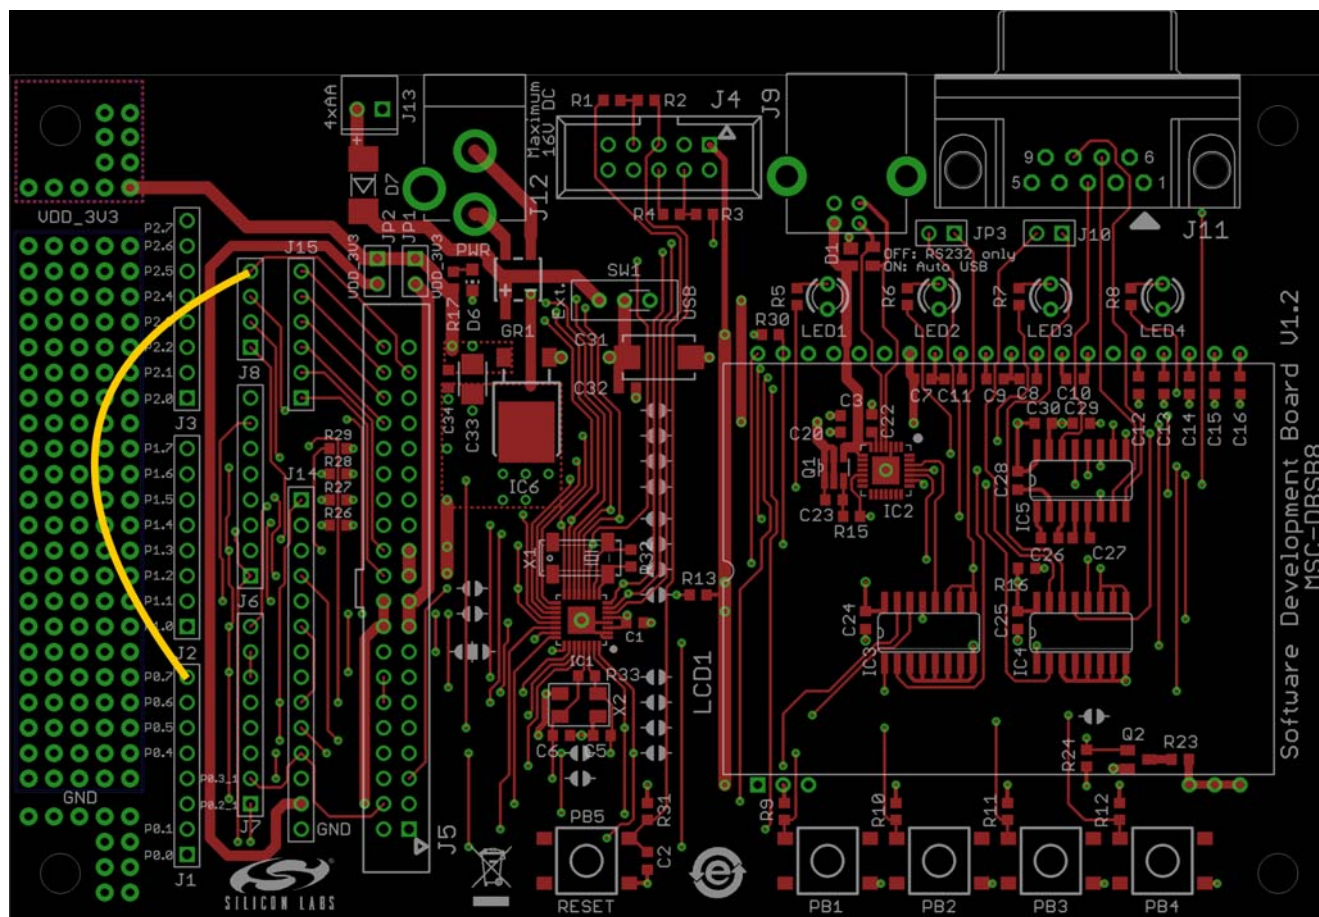

Figure 33. SDBD v1.2 Connections
- Connect pin 4 of J8 to pin 8 (P0.7) of J1 (RX Data Clock)—the orange line on Figure 33.